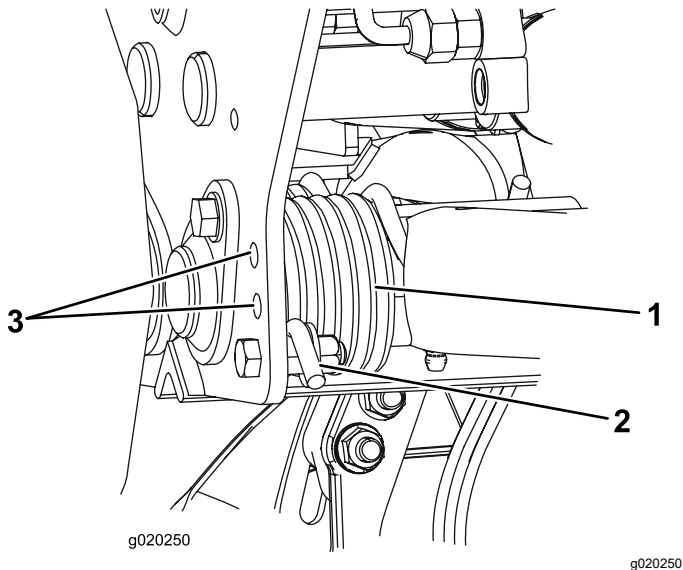

Figure 34
- Insert a tube or similar object onto the long spring end to relieve the spring tension during the adjustment (Figure 34).
- While relieving the spring tension, remove the bolt and locknut securing the spring actuator to the bracket (Figure 34).